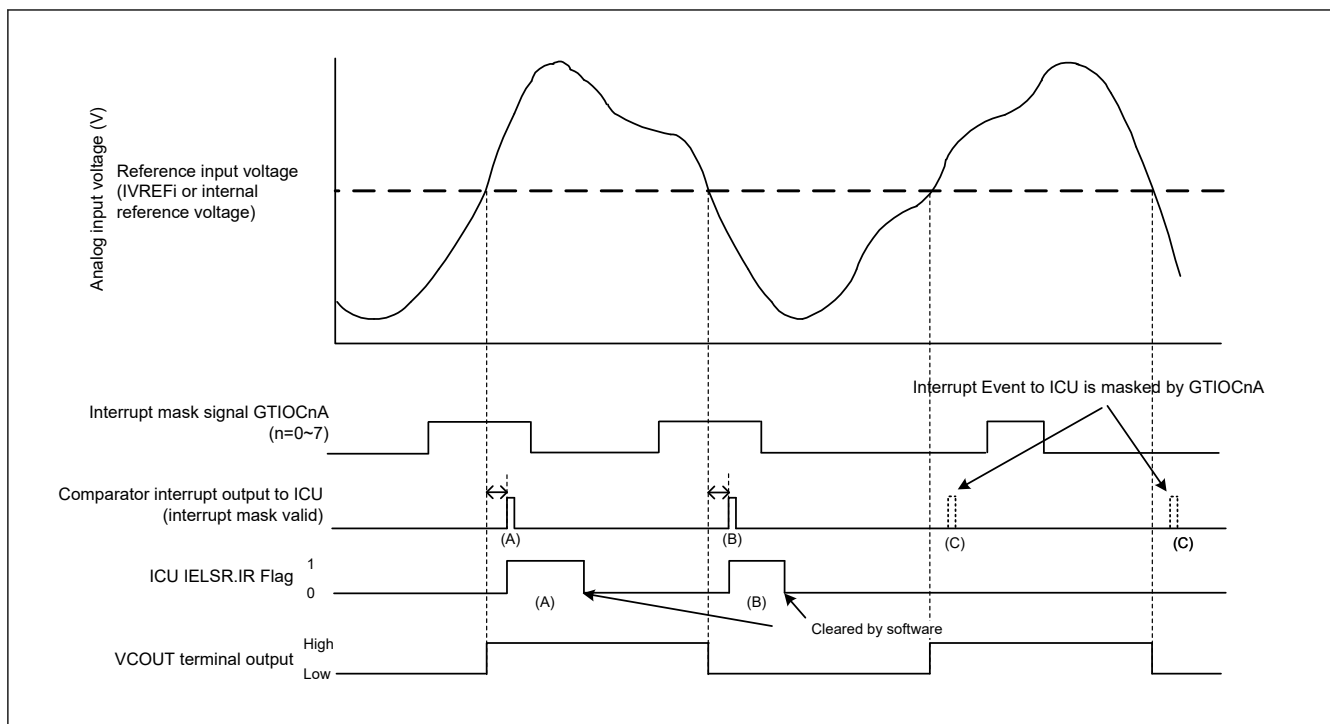

Figure 57.3 ACMPHS operation example (interrupt mask function valid)
Figure 57.2 and Figure 57.3 show an example of ACMPHS operation. The VCOUT output becomes 1 when the analog input voltage is higher than the ACMPHS reference input voltage, and the VCOUT output becomes 0 when the analog input voltage is lower than the reference voltage. When the ACMPHS output changes, an interrupt request and an ELC event are output.
Figure 57.3 applies when $CPOE = 1$ (pin output enabled), $CDFS[1:0] = 00b$ (filter not used), $CEG[1:0] = 11b$ (both-edge detection selected). When $CINV = 0$, $CEG[1:0] = 01b$ (rising-edge detection selected for non-inversion output signal from the ACMPHS), the IELSR.IR flag changes as shown by (A) only. When $CINV = 0$, $CEG[1:0] = 10b$ (falling-edge detection selected for non-inversion output signal from the ACMPHS), the IR flag changes as shown by (B) only.
Interrupt event to ICU/ELC can be masked by GPT output (GTIOCnA (n = 0 to 7)), it's controlled by CPINTCTL.MSKE bit and CPMSKCTL.MSKSEL[2:0] bits. Detail refer to Figure 57.3.